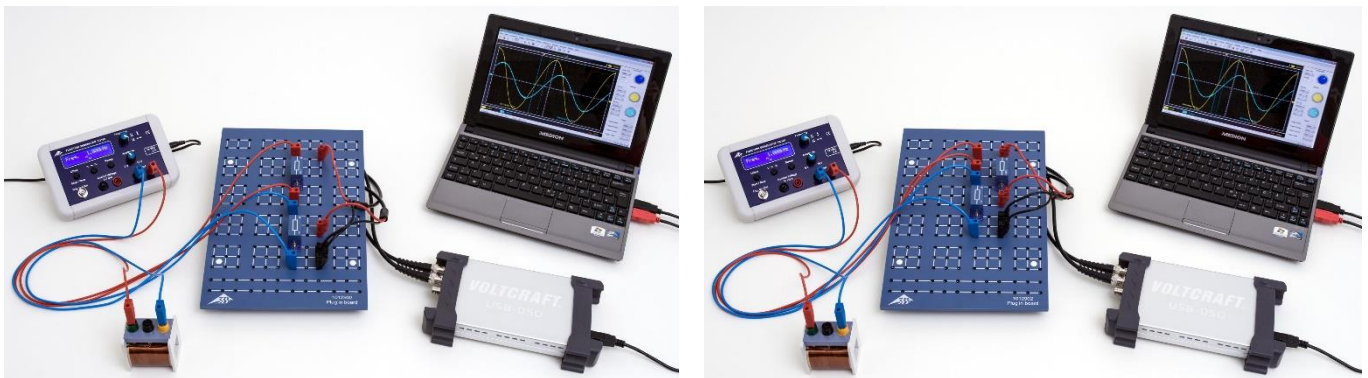
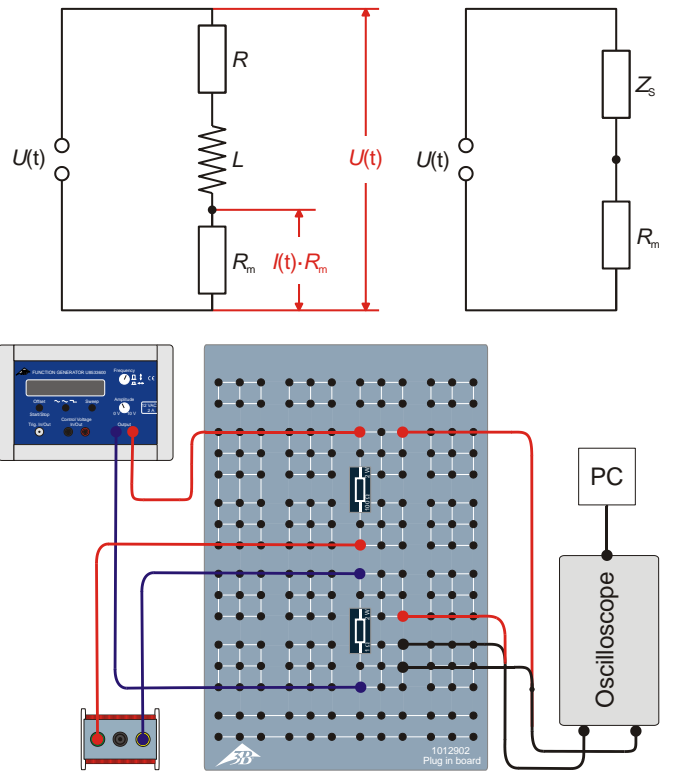
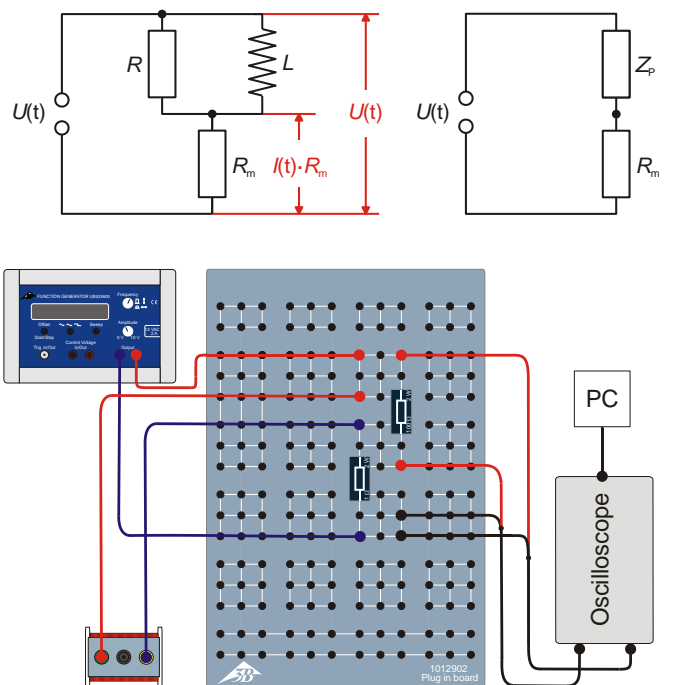

Fig. 1: Measurement set-up for series circuit (left) and parallel circuit (right).
Fig. 2: Circuit diagram (top left), equivalent circuit (top right) and schematic sketch of set-up (below) for series circuit.
Fig. 3: Circuit diagram (top left), equivalent circuit (top right) and schematic sketch of set-up (below) for parallel circuit..
In this experiment this will be measured by finding the drop in voltage  $U_m(t)$  across a load resistor  $R_m$  (Fig. 2, 3), which is of such a value that  $U_{m0} \ll U_0$ , i.e. nearly all of the voltage drops across  $Z_S$  or  $Z_P$ . The current obtained in this way flows through  $Z_S$  and through  $Z_P$  since both these resistors are in series with  $R_m$  (see equivalent circuit diagram in Fig. 2, 3). Since  $U_m(t) = I(t) \cdot R_m$ , the change in voltage over time  $U_m(t)$  will also be reflected in the change in current over time  $I(t)$ .
- Assemble a set-up for measurement of the series circuit (as in Fig. 1, left) in accordance with the sketch of the circuit diagram (Fig. 2) in which  $R_m = 10 \Omega$ ,  $C = 1 \mu F$  and the coil has  $N = 1200$  turns and inductance  $L = 23.0$  mH.
- Assemble a set-up for measurement of the parallel circuit (as in Fig. 1) in accordance with the sketch of the circuit diagram (Fig. 3) in which  $R_m = 10\ \Omega$ ,  $C = 1\ \mu\text{F}$  and the coil has  $N = 1200$  turns and inductance  $L = 23.0\text{ mH}$ .